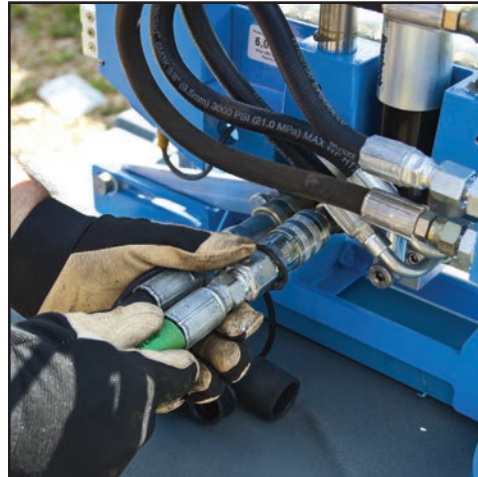

Figure 60. Attach Hydraulic Hoses
1. Attach the quick-disconnect couplings to the hydraulic power supply (Figure 60).